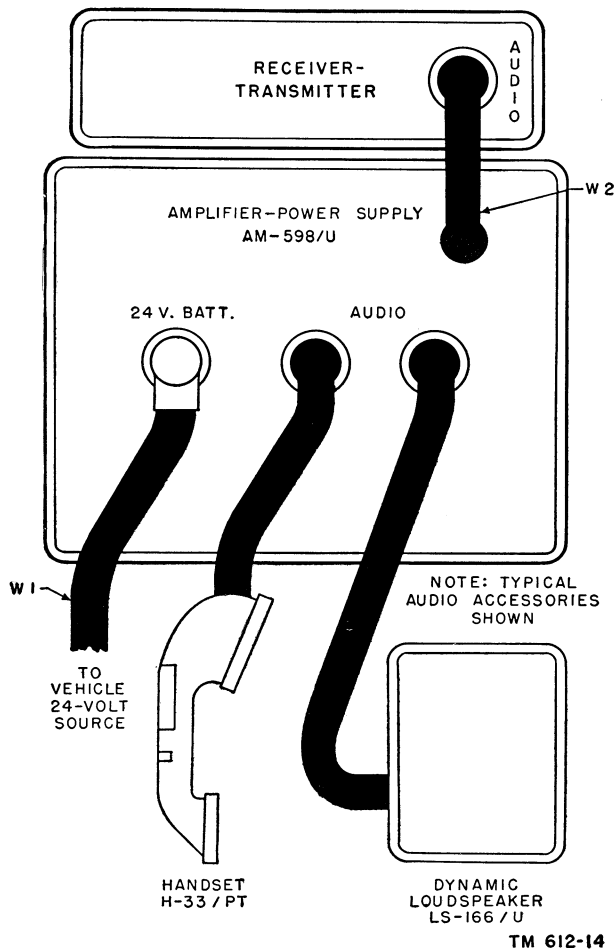

Figure 11. Connection of audio accessories to power supply.
*c. Connection of Audio Accessories.* Audio accessories are connected to the AUDIO connectors on the front panel of Amplifier-Power Supply AM-598/U (fig. 11). Two audio accessories may be used at the same time. Appropriate audio accessories are included in the vehicular installation kits. The following audio accessories may be used: